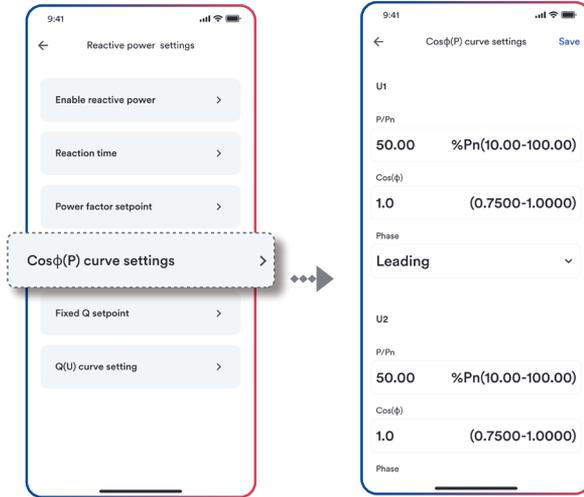

Figure 31. Cos(P) curve settings
5.2.18 Cos (P)curve settings
Cos (P) curve settings is as shown in Figure 31: